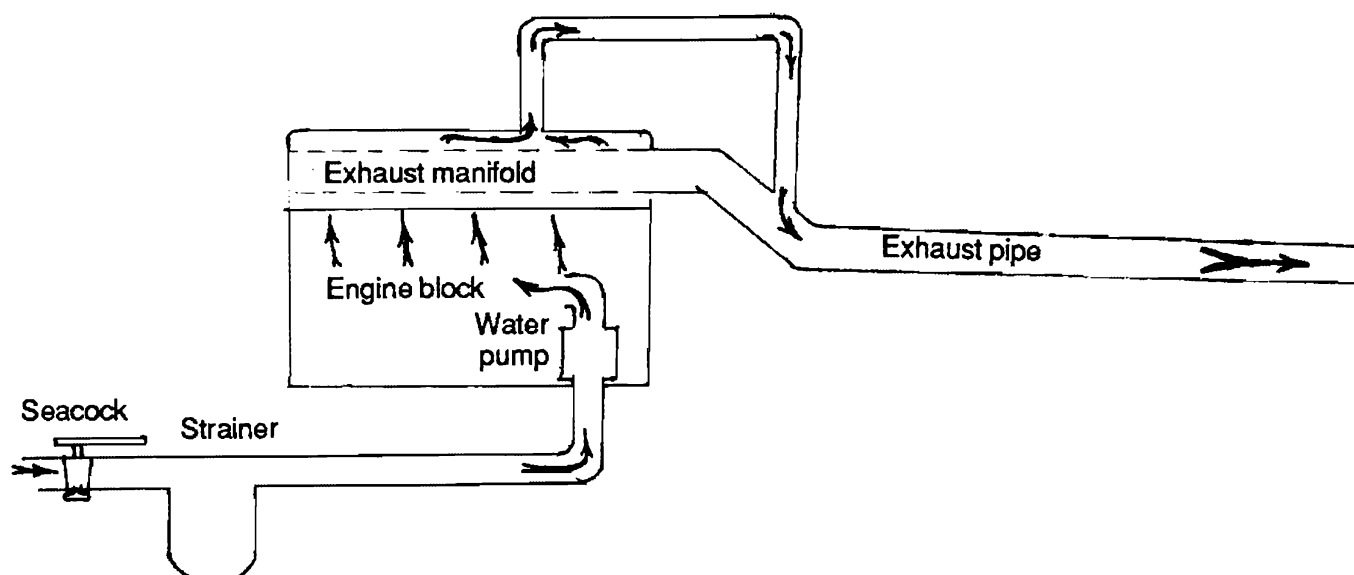

Figure 6-1. *Raw-water cooling.*
1. In raw-water-cooled engines, after coming out of the water jacket around the exhaust manifold, the engine cooling water is sprayed into the exhaust pipe and mixes with the exhaust gases (Figure 6-1). As the water is sprayed into the pipe, much of it evaporates, rapidly cooling the gases. This sharp reduction in temperature produces a corresponding fall in pressure, which reduces the back pressure in the system and slows down the exiting gases. The reductions in pressure and speed have a considerable silencing effect.